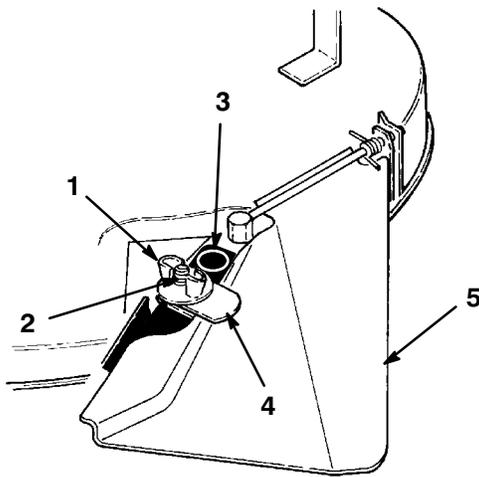

Figure 12
- Remove the wing nut securing the discharge cover (Fig. 12) to the mower housing. **Never** remove the grass deflector from the mower housing (Fig. 12).